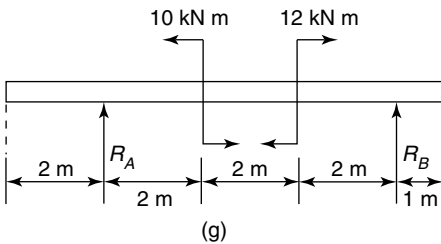

Figure 5.32
7. Figure 5.32  $[R_A = -333 \text{ N}, R_B = 333 \text{ N}]$